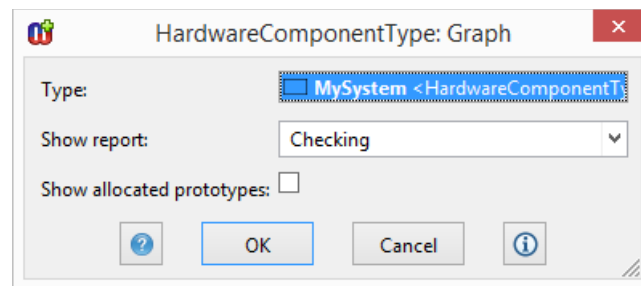

Figure 3-2. Entering the name for the hardware architecture
You are next asked to enter the details of the system for which the Hardware Architecture model will be created. These details are entered in property fields as shown in Figure 3-2. The dialogs contain four types of property fields:
- Short string fields, longer text fields or lists. All these have a white background color. Values for these strings and text fields can be inserted by just activating the field and then typing the value or selecting the required list value from the pull-down list (like “Checking” in the ‘*Show report*’ field in Figure 3-2).
- Boolean or radio button values can be activated by clicking the chosen item after the property name, see ‘*Show allocated prototypes*’ in Figure 3-2.
- Grey property fields (‘*Type*’ in Figure 3-2) have a link to the other object (“MySystem: HardwareComponentType” in the sample Figure 3-2). The details of these objects are specified in a separate property dialog. You may create a new object by double-clicking the grey property field. After double-clicking you may select if you want to create a new object or reuse an existing one. If you have entered a value earlier for this property field, double-clicking the property value opens the corresponding property dialog.